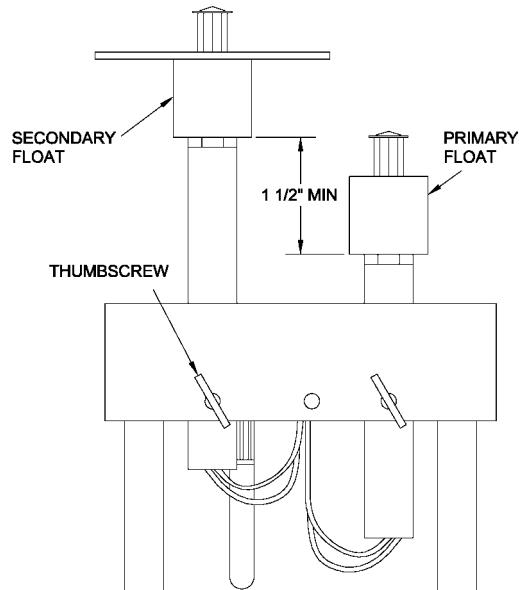

Figure 3-3. Final Adjustment on Secondary Float
9. Remove the transmitter from the skimmer chamber and adjust the **secondary** float mount to position secondary float $1 \frac{1}{2}$ inches below the primary float (figure 3-3).
6. After adjusting the primary float mount, make certain the secondary float is still positioned at least $1 \frac{1}{2}$ inches below the primary float (see figure 3-3).